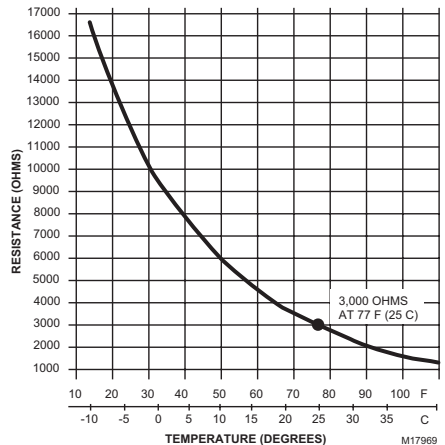

Fig. 7. C7046A,C Sensor resistance vs. temperature.
3. Assure nominal resistance measurements are in accordance with the resistance/temperature curves shown in Figs. 7, 8 and 9.